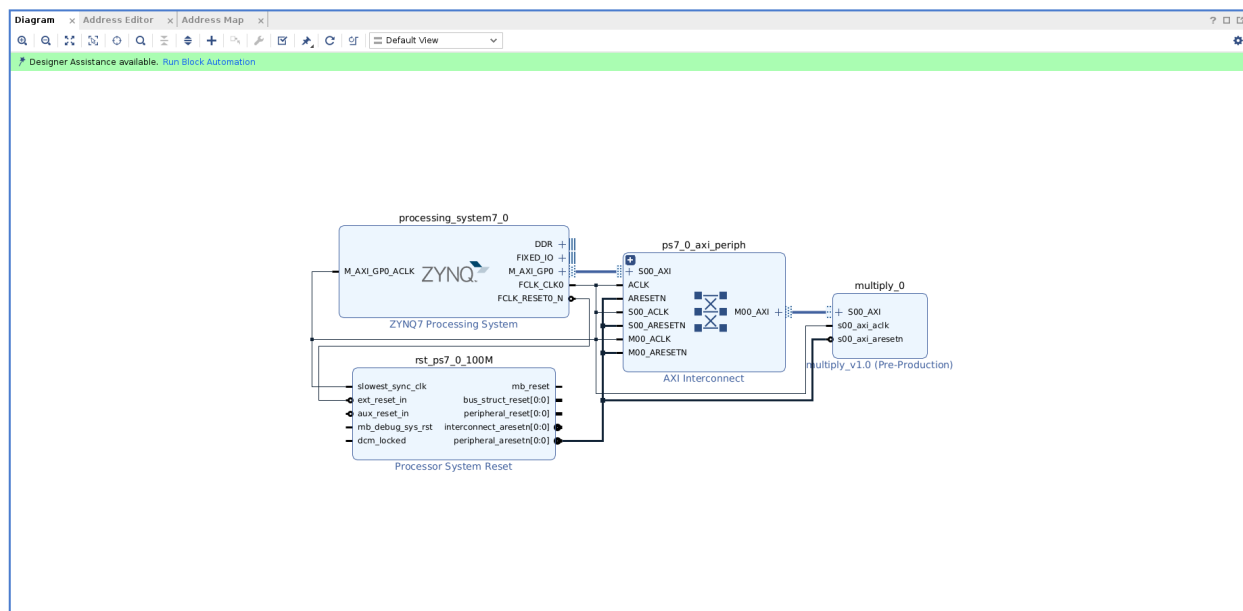

Figure 6: Layout of the Design
- Now, select the Vivado window which has the PS system. Open the diagram tab and add 'multiply' IP to the PS system. Select 'Run Connection Automation' and in the prompted window select 'All Automation' and click 'OK'. Once automation is completed, a layout is generated. Right click on the diagram and select 'Regenerate Layout' to re draw the layout design. The layout is shown in Figure 6. A 'Processor System Reset' block is also created which synchronizes the peripheral and interconnect reset to clock.